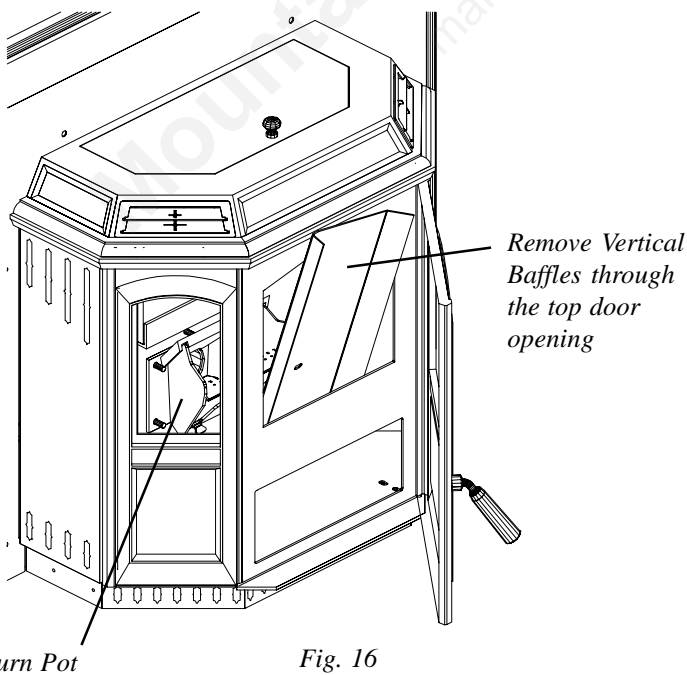
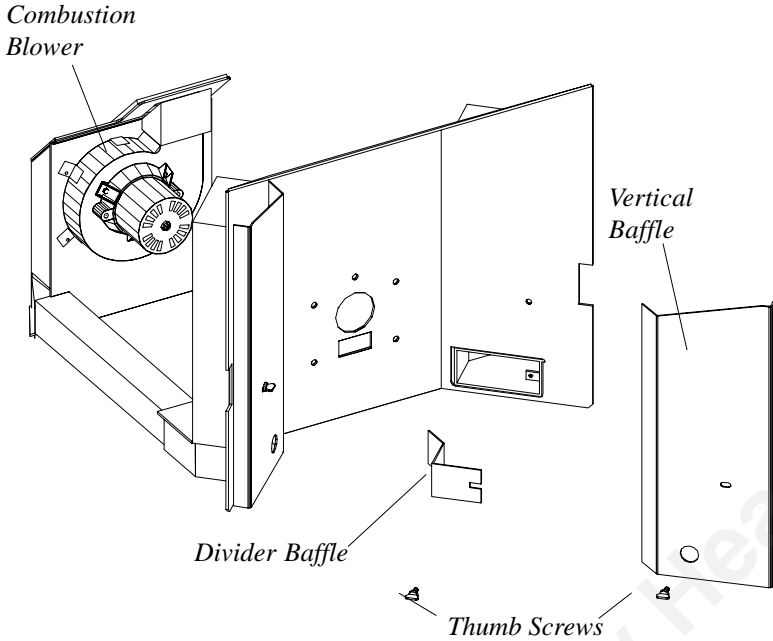

Fig. 16
Fig. 18
- \* Remove vertical baffles from firebox by first removing the thumb screws. Next rotate the baffles around to the front and remove through the door opening, fig. 16. This exposes the divider baffles which can be removed by first removing the thumb screws, fig. 18.
*Note: Fig. 18 & 19 show heat exchanger and rear firebox only. This is done to better illustrate cleaning.*